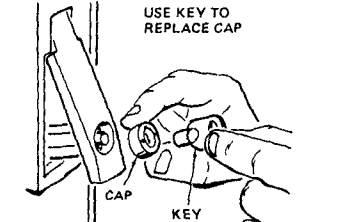

Figure 4-4. Recoding a Recodeable Lock
- B. For instructions to recode a Flex-ACE® Lock see Figure 4-4.